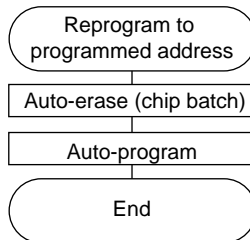

Figure 18.24 Reprogramming to Programmed Address
- When programming addresses which have previously been programmed, carry out auto-erasing before auto-programming (figure 18.24).